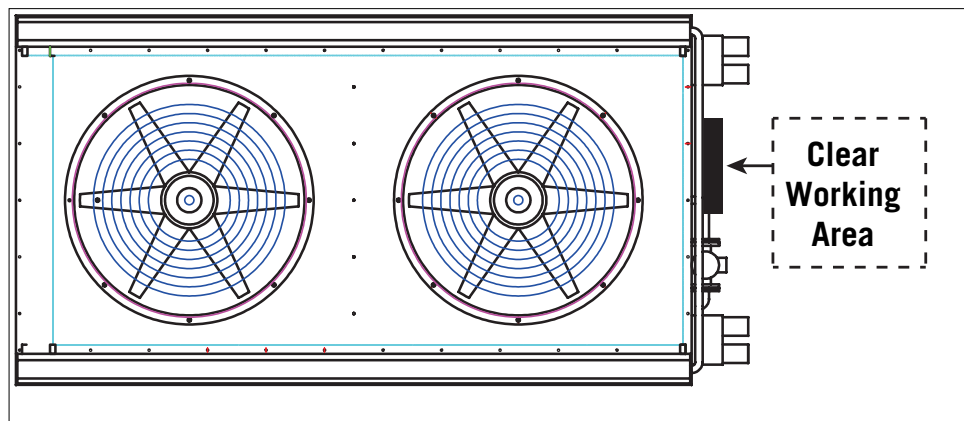

Figure 14. Clear Working Area
- When piping the refrigerant connections, take care not to block the door opening of the access hatch or control panel. See **Figure 14**.